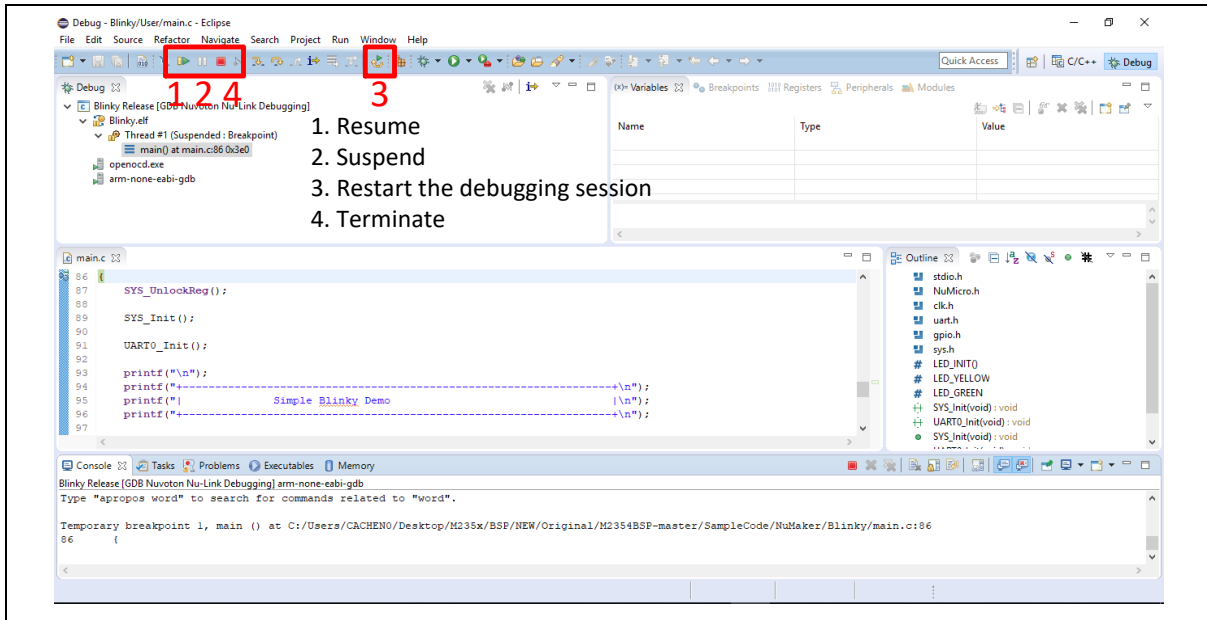

Figure 4-26 NuEclipse Debug Mode
- Figure 4-26 shows the debug mode under NuEclipse. Click **Resume** and the debug message will be printed out as shown in Figure 4-27. User can debug the project under debug mode by checking source code, assembly language, peripherals' registers, and setting breakpoint, step run, value monitor, etc. For more information about how to use NuEclipse, please refer to the NuEclipse User Manual.